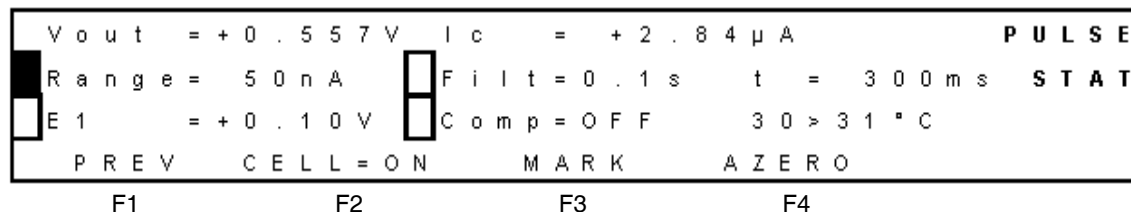

Figure 3-41 Pulse Stat Screen when Flow Cell Is On
5. Select **F5 NEXT**. The Pulse Stat screen appears (Figure 3-41).
3. Select **F5 NEXT**. The Pulse Stat screen appears (Figure 3-41).